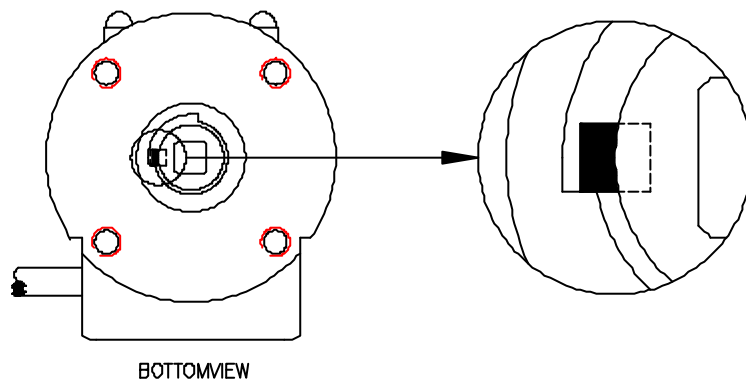

figure 2 : Position of driveshaft.
9. For fail-close actuators -clockwise close- be sure the driveshaft can make a free quarter turn clockwise (seen from the bottomside) from its endposition; refer to figure 2 (the position of the 'free-run' can differ from the figure). By this the gearbox can open the valve in case of actuator or power supply failure.